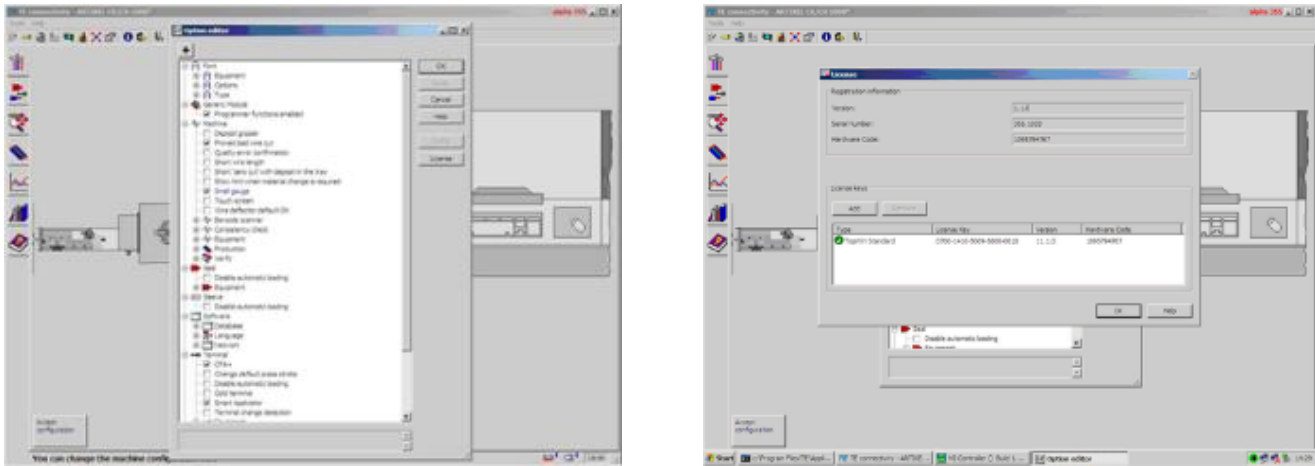

Figure 13
- a. Click "License on the right-hand side". See Figure 13.
- b. Click "Add", and enter the license key. See Figure 13.